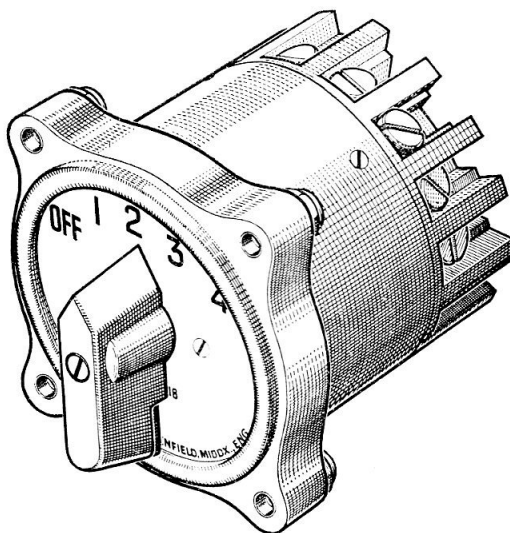

Fig. 1. Rotary switch, Type S18
2. A general view of the 4-way switch is shown in fig. 1. The contact studs are made of brass with solid silver caps, and the brush arms are silver-plated phosphor-bronze. The total resistance of the switch is between 0.005 and 0.010 ohms.